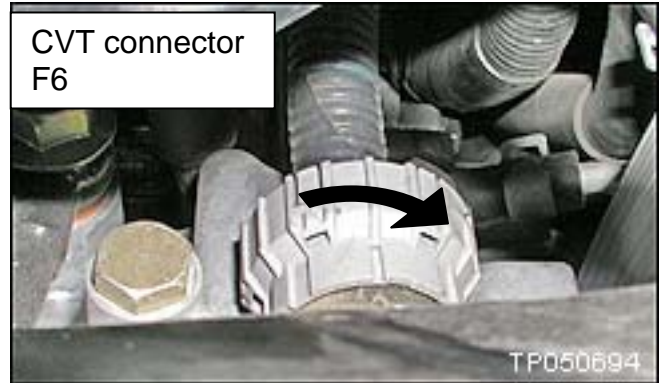

Figure 3
1. Disconnect the CVT harness connector F6 by turning in the direction shown in Figure 3.